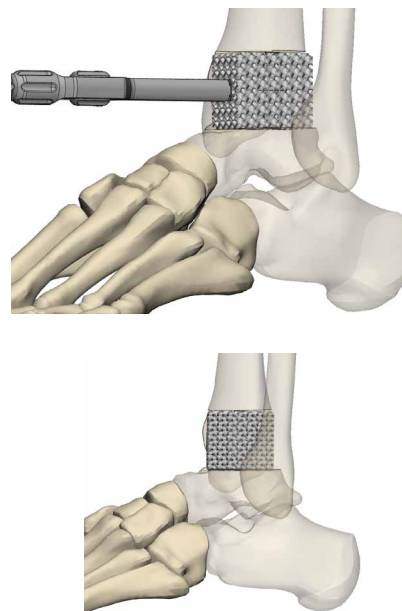

Fig. 24
24. Place the Ossera™ AFX into the surgical site such that the central hole of the Ossera™ AFX is aligned with the reamed tibial canal in the anterior and lateral views as verified under fluoroscopy. Use the inserter attached to the Ossera™ AFX to maintain implant position during nail insertion to minimize contact of the nail with the central hole of the Ossera™ AFX. (fig. 24).